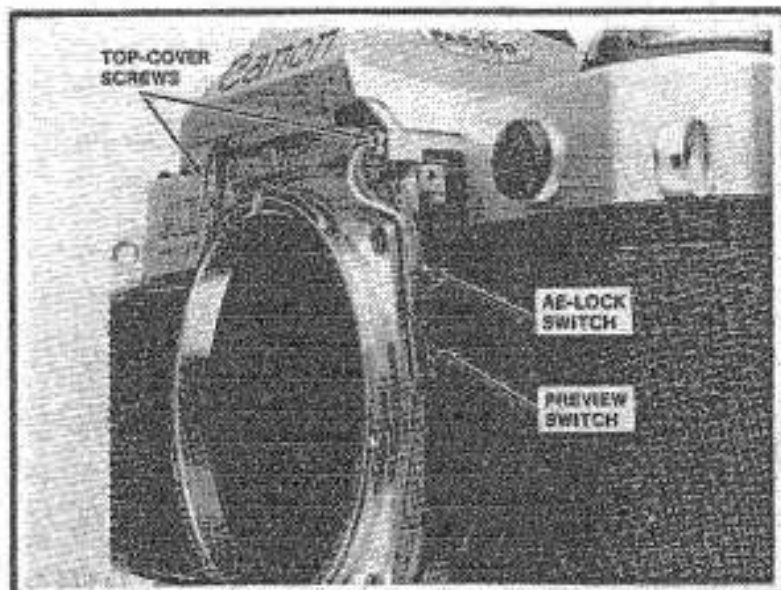

Figure 6
- Remove the lens. Take out the 4 screws holding the front cover. Lift the wind side of the front cover first to clear the preview and AE-lock switches, Fig. 6. On reassembly, seat the rewind side of the front cover first.